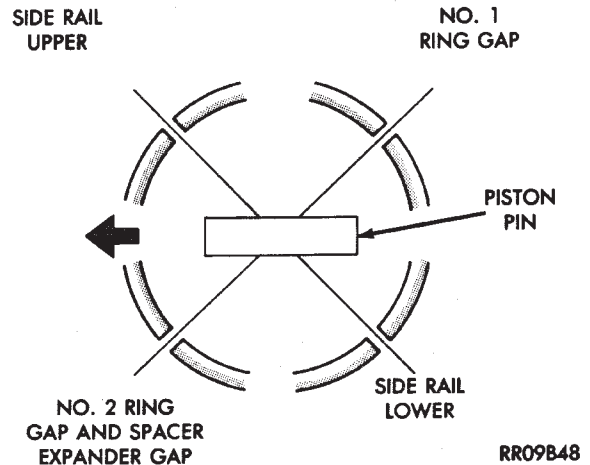

Fig. 93 Piston Ring End Gap Position
(10) Position piston ring end gaps as shown in (Fig. 93).
(11) Position oil ring expander gap at least 45° from the side rail gaps but **not** on the piston pin center or on the thrust direction. Staggering ring gap is important for oil control.